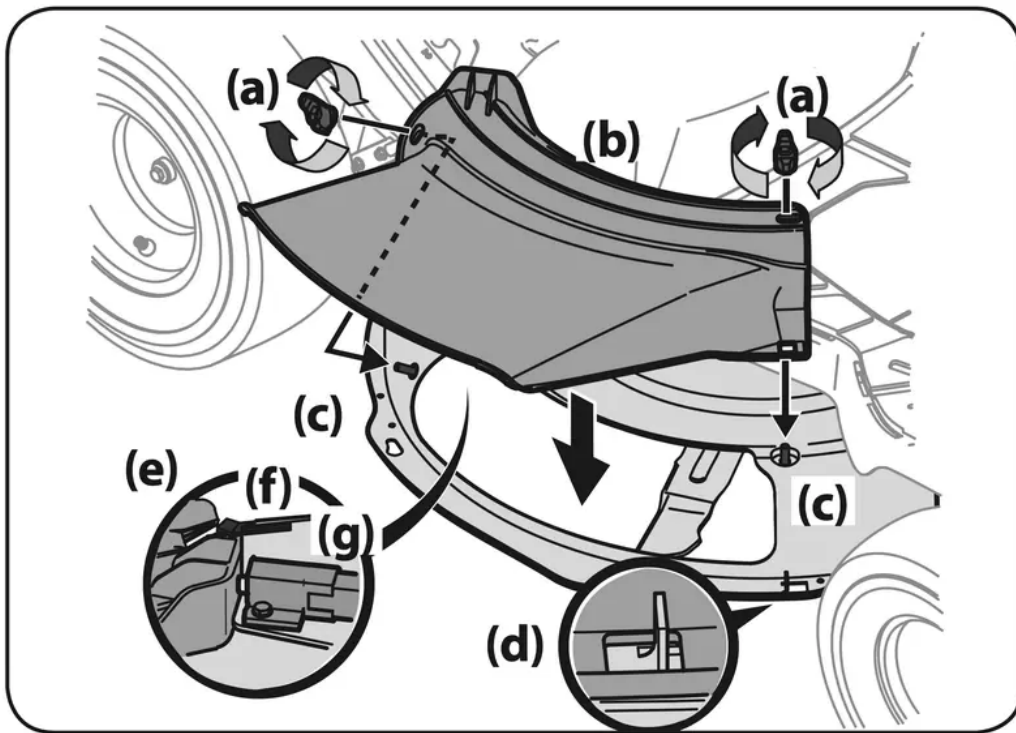

Figure 8
8. Remove the wing knobs (a) installed on the mowing deck and retain for later installation. See Figure 8.
9. Install the deck chute (b) into the deck discharge opening on the deck. The rear of the chute should be under the tab (f) on the rear deck bracket (g). The studs (c) on the deck surface will fit through the holes on the upper portion of the deck chute. The small tab (d) on the deck lip area will fit through the square cutout on the lower portion of the deck chute. See Figure 8.
10. Secure the deck chute (b) by tightening the wing knobs (a) removed in step 1. See Figure 8.